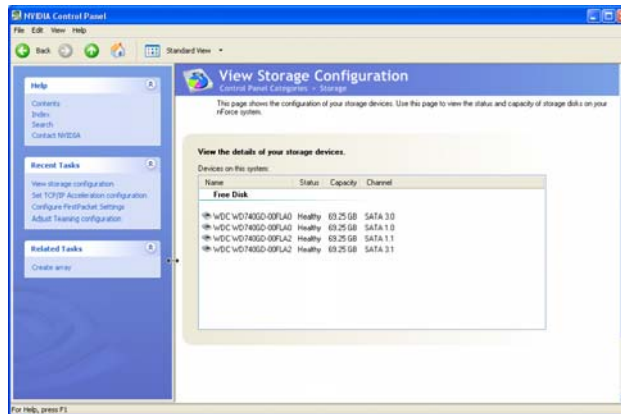

Figure 10. Deleted RAID Array
2. Follow directions in the next few wizard screens to finish deleting the array. As shown in Figure 10, the array has been deleted and you see only free disks.